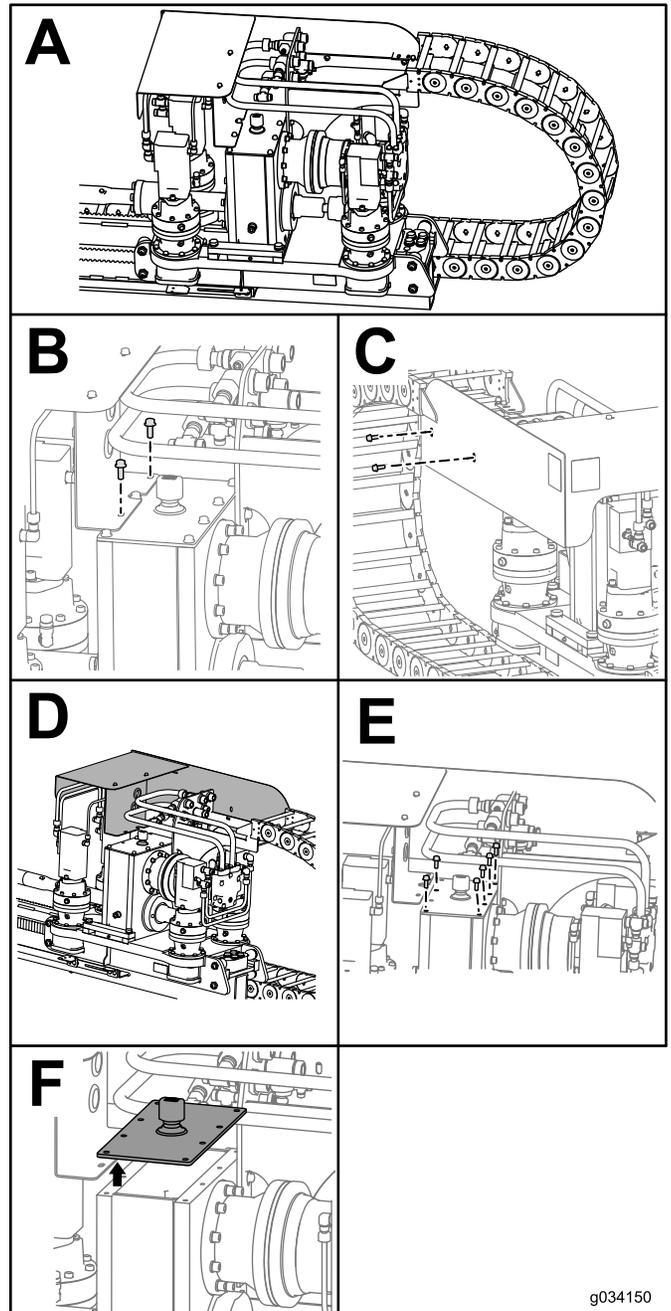

Figure 104
3. Remove the 2 bolts and nuts on the carriage guard (Box B of Figure 104).
4. Remove the 2 bolts and nuts on the side of the carriage guard (Box C of Figure 104).
5. Slide the carriage guard forward (Box D of Figure 104).
6. Remove the 6 bolts on the gearbox (Box E of Figure 104).
7. Remove the cover on the gearbox and syphon the oil out (Box F of Figure 104).
11. Slide the cover back onto the gearbox and loosely install the 6 bolts (Box E of Figure 104).
12. Place the carriage guard back into place and loosely install the 2 bolts (Box C of Figure 104).
13. Install the 2 bolts securing the carriage guard onto the gearbox (Box B of Figure 104).